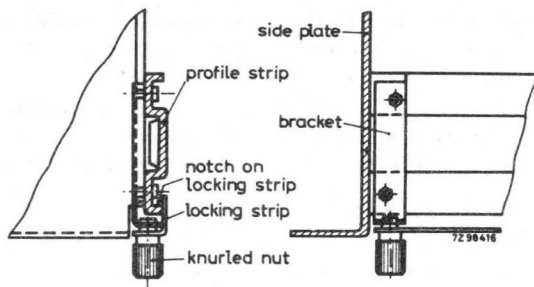

Fig.12
7. Pull the brackets to their foremost position by the 2 knurled nuts until the 3 punched notches on the locking strip touch the inside of the "front leg" of the front profile strip \*) (Fig.12). Tighten the fixing nuts of the brackets.